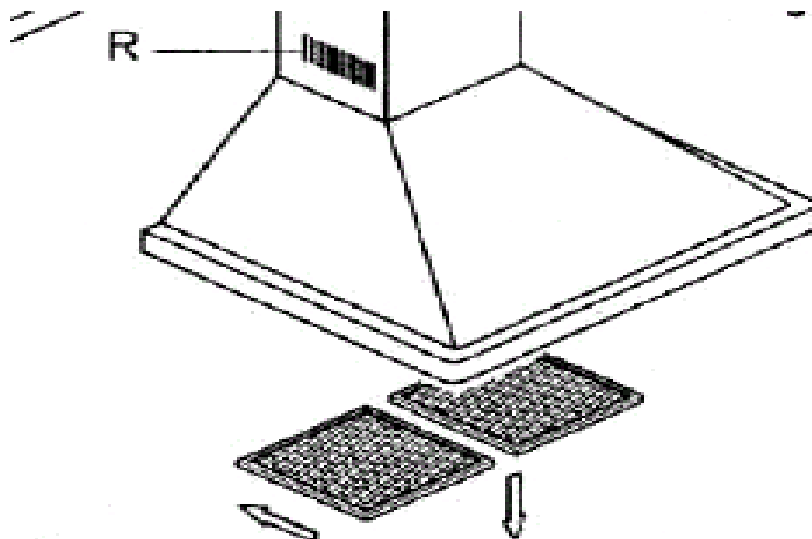

Fig. 2
- ✓ Remove the metal anti-grease filters (see Figure 2 below) and find the old bulb located in the light fixture up inside the exposed canopy. Change the incandescent bulb using only olive-shaped spares with an E14 coupling, max. 40W.
- 1) Press the handle of the metal grease filter towards the rear part of the unit until it is released from the front housing, and remove it by pressing downwards (Fig. 2 - below).**